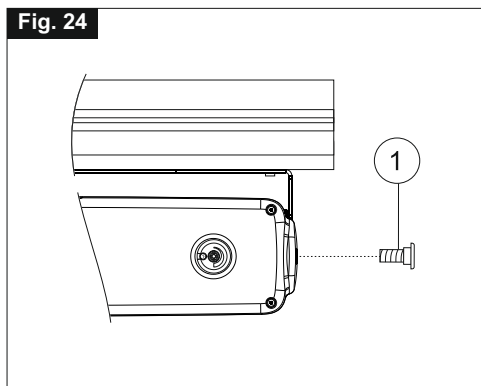

Fig. 25
- 12) **Fig. 25-** With an Allen wrench, adjust the opening stroke by means of a proper selector (**Ref. 1**) according to the table quoted in **Fig. 7a**;